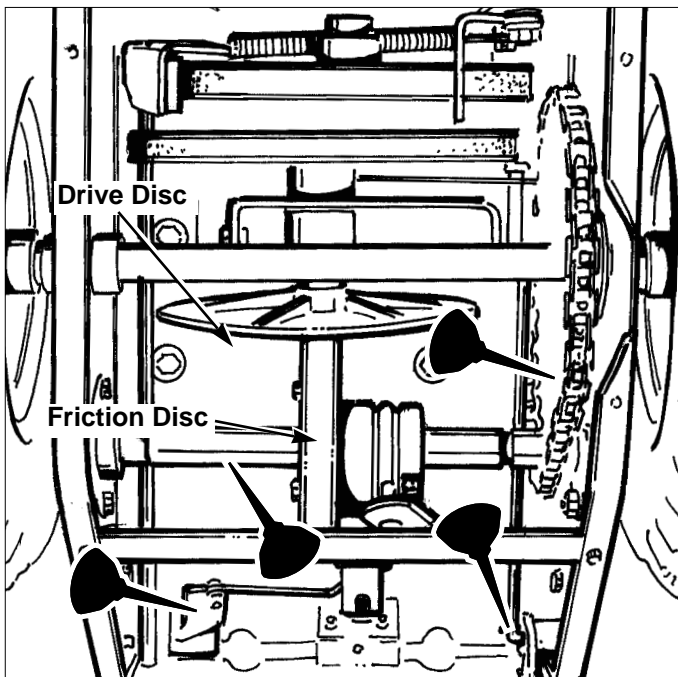

Figure 14. Drive Area Lubrication Points
Apply medium weight (10W) oil to points shown (See Figures 14 - 16).
1. After 5 hours of use, check for proper adjustment. Readjust clutch rod if necessary by increasing tension on rod. A small amount of bellcrank arm movement is permissible if unit passes operating checks described in the Caution at left. **Optimal adjustment provides 1/32" clearance between traction drive disc and rubber ring on friction disc when drive lever is released** (see Figure 14).